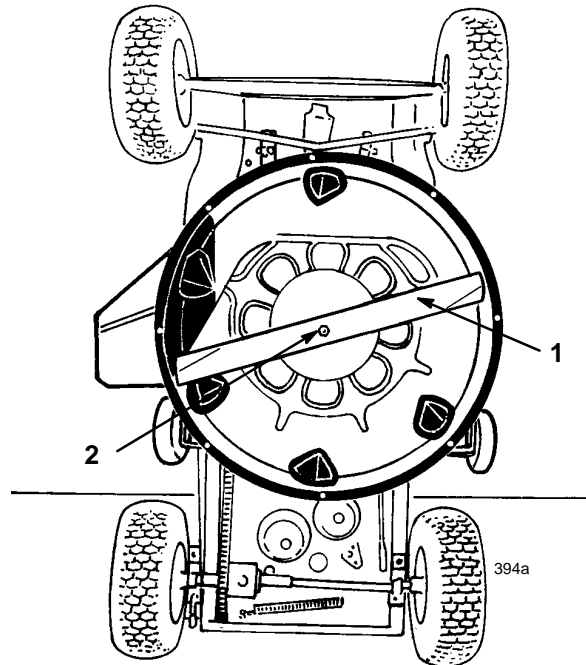

Figure 16
6. Grasp end of blade using a rag or thickly padded glove; then remove blade bolt, washer and blade (Fig. 16).
9. In sequence, reinstall blade, washer and blade bolt (Fig. 16). Tighten blade bolt to 45-60 ft-lb (61-81 Nm).